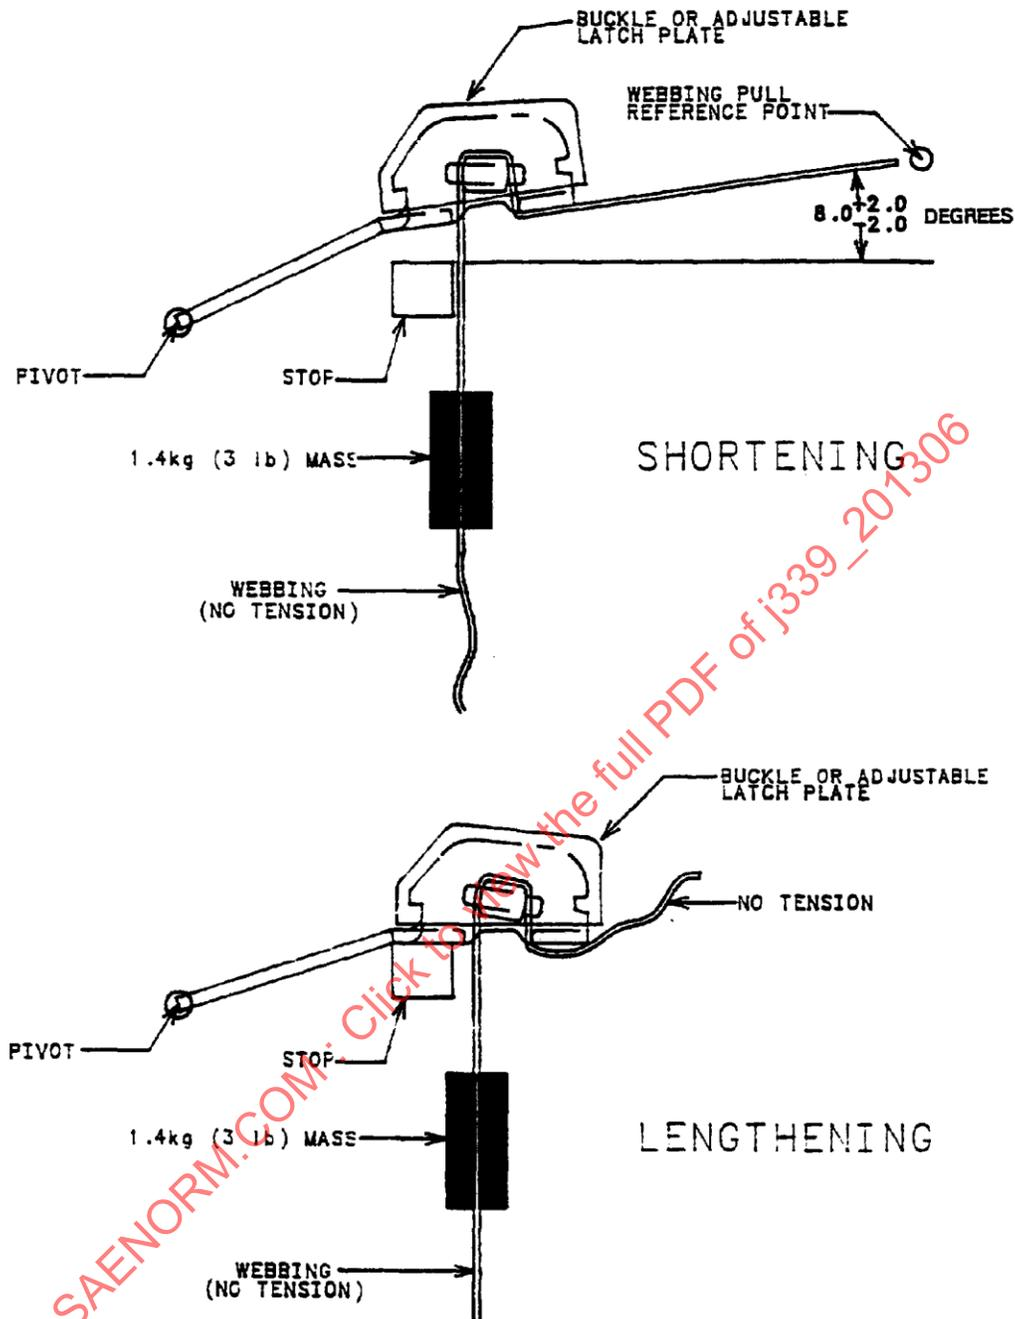

FIGURE 1—WEBBING ABRASION
3. **Test Equipment**—Means shall be provided for lengthening and shortening applicable assemblies. Figure 1 illustrates the means and direction of pull on webbing to be used for evaluating tilt-lock type adjustment hardware. For other types of adjustment hardware, modifications may be needed to achieve equivalent results.
NOTE—The directions indicated in Figure 1 are not necessarily intended to duplicate adjustment hardware usage angles. However, the test will provide comparative data on hardware types, webbing types, and combinations designed to be compatible in a system.